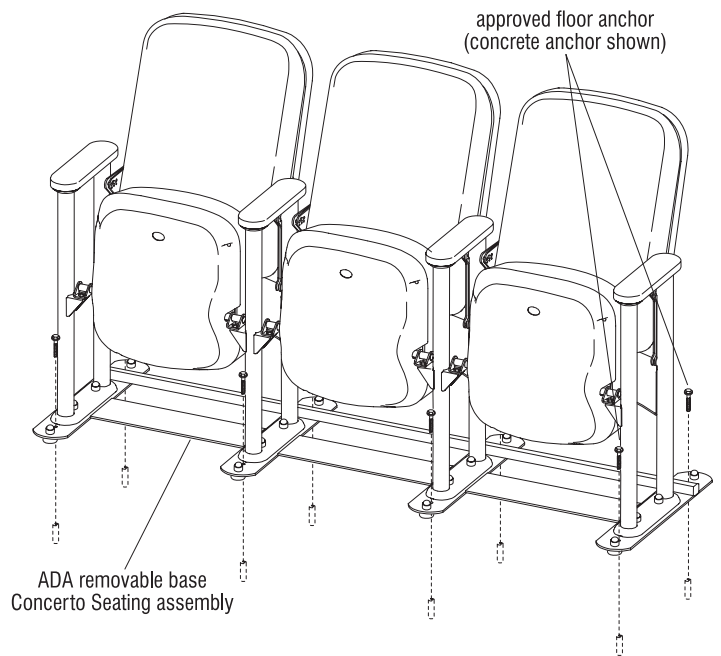

Figure 13
6. Reposition the unit and insert fasteners through to the floor following the anchor requirements (Figure 13).
7. For removal of the unit, remove the hardware that anchors the ADA base to the floor and move the unit. To reinstall, repeat steps 5 & 6 (Figure 13).